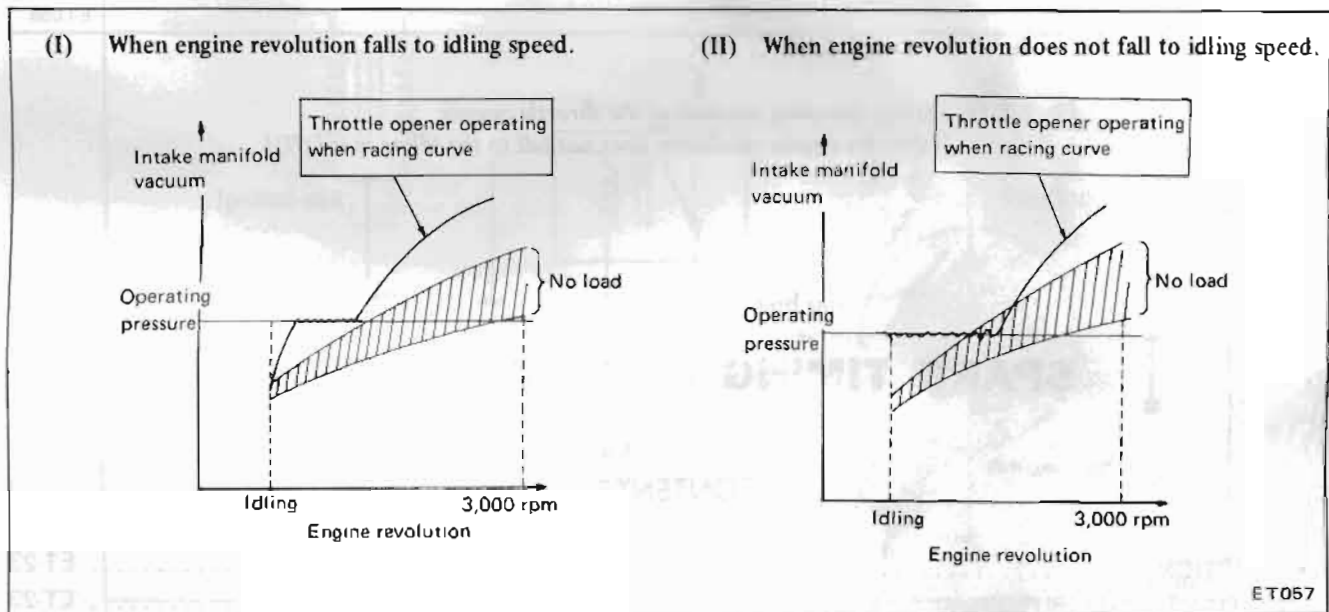

Fig. ET-35 Characteristic curves of throttle opener
- (I) When engine revolution falls to idling speed (See Figure ET-35.)
(II) When engine revolution does not fall to idling speed (See Figure ET-35.)
When the engine revolution does not fall to the idling speed, it is necessary to reduce the idling negative pressure of the intake manifold lower than the operating pressure of the throttle opener. See Figure ET-35 [case of (II)].